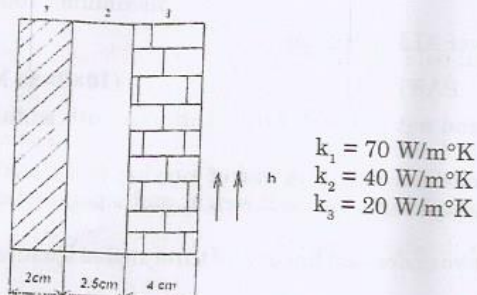

Fig. 12 (a)
12. a) A composite wall consists of three materials as shown in Fig. 12 (a). The inside wall temperature is 100°C and the outside air temperature is 50°C with a convection coefficient h of $10 \text{ W/cm}^2 \text{ }^\circ \text{C}$. Determine the temperature along the composite wall if the conduction coefficients of the three materials are as given in the figure.